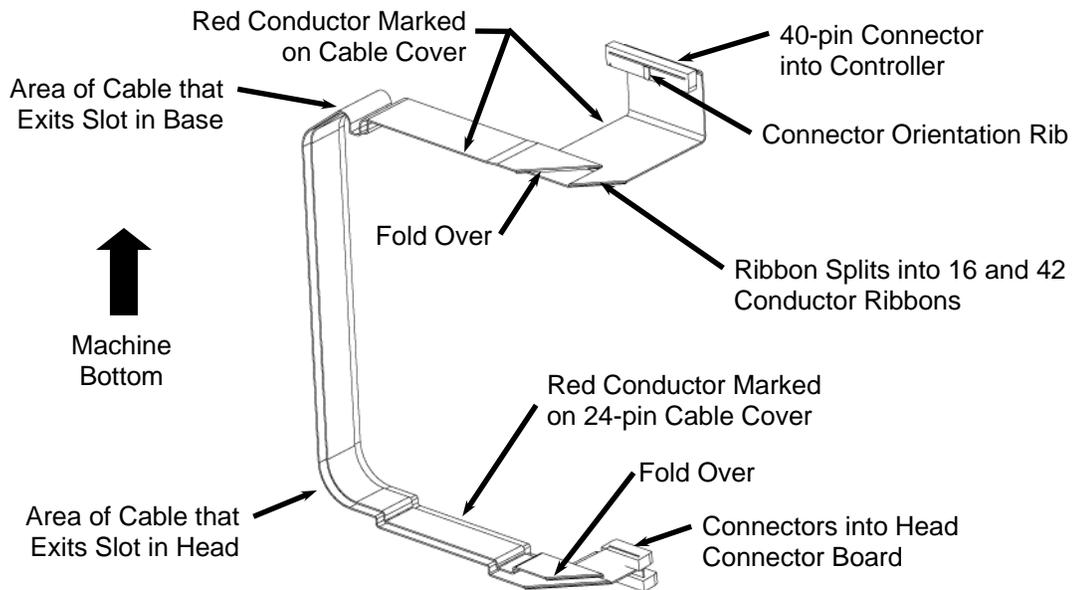

FIGURE 18: HEAD RIBBON CABLE ORIENTATION (AS SEEN IN THE MACHINE)
1. **Replace the head ribbon cable.** Install the new head ribbon cable into the machine as shown in Figure 17. Use the old cable as needed to put the fold-overs in the correct position along the cable. Figure 18 shows the shape of the cable as it would appear in the machine (with the bottom of the machine pointing to the top of the page). Make sure that the red conductor is facing the correct direction.